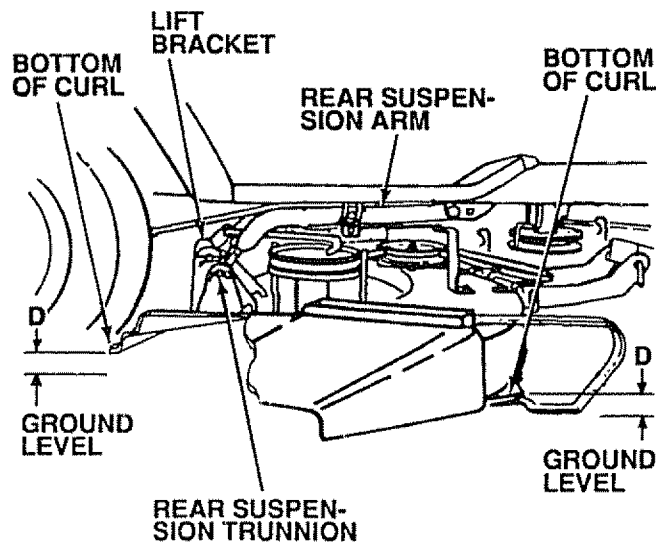

FIGURE 39
- To obtain the best cutting results, your mower housing should be adjusted so the front and rear flange distance "D" (Fig. 39) is 1/2" (12.7 mm) lower in front when the mower is in the highest cutting position.